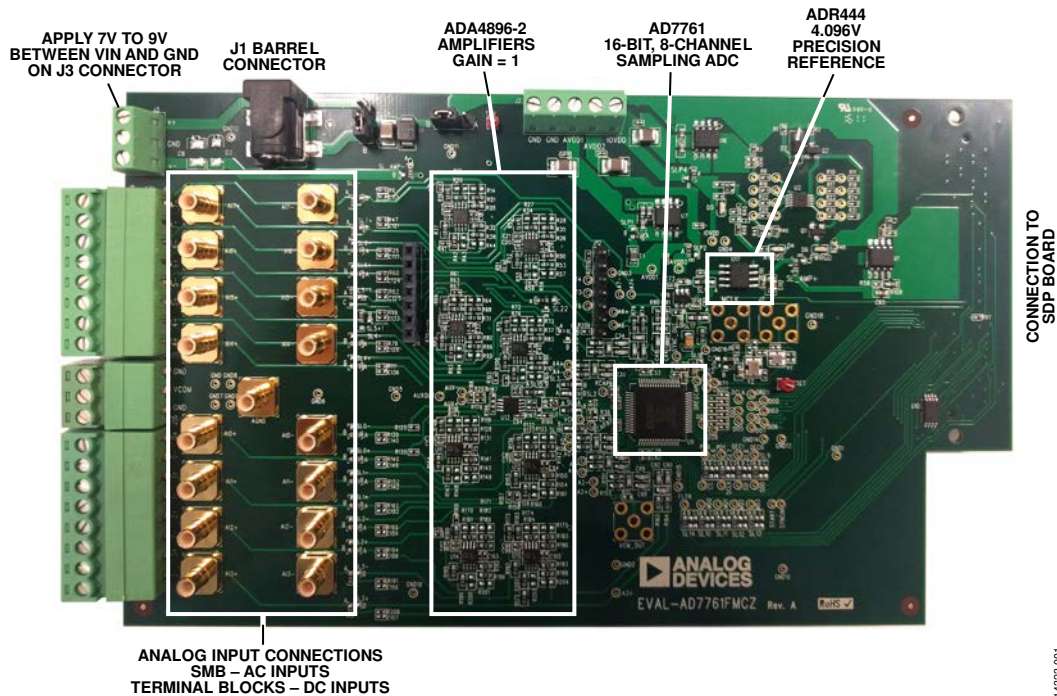

Figure 1. Evaluation Board
2. Connect the EVAL-SDP-CH1Z board to the EVAL-AD7761FMCZ evaluation board (unpowered). Figure 1 illustrates the connection: J4 of the EVAL-SDP-CH1Z board adapts to the receiving socket on the EVAL-AD7761FMCZ printed circuit board (PCB).